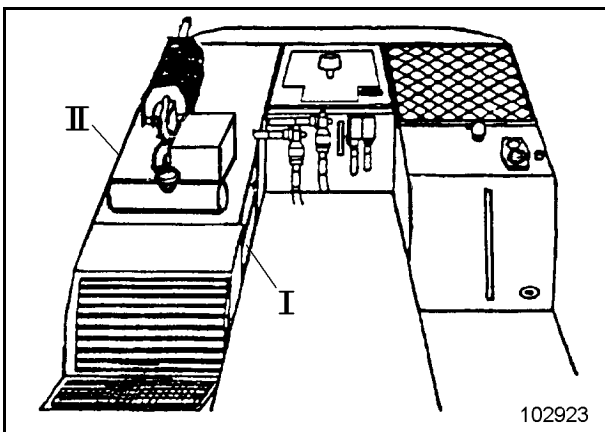

Fig. 3-34:
- Open hatch I (Fig. 3-34:) to gain access to the filters.